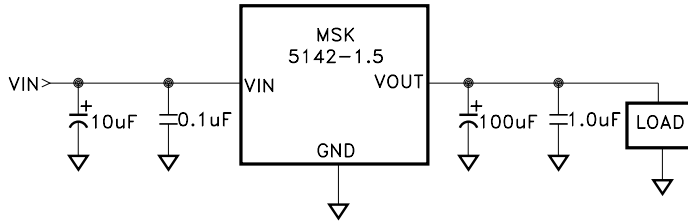

FIGURE 1
- (1) The output is decoupled to ground using a 100μF low ESR tantalum capacitor in parallel with a 1μF ceramic capacitor. See figure 1 for typical circuit.
- (2) Guaranteed by design but not tested. Typical parameters are representative of actual device performance but are for reference only.
- (3) Industrial grade devices shall be tested to subgroups 1 unless otherwise requested.
- (4) Military grade devices ("H" suffix) shall be 100% tested to subgroups 1, 2 and 3
- (5) Subgroup 1 TA = +25°C